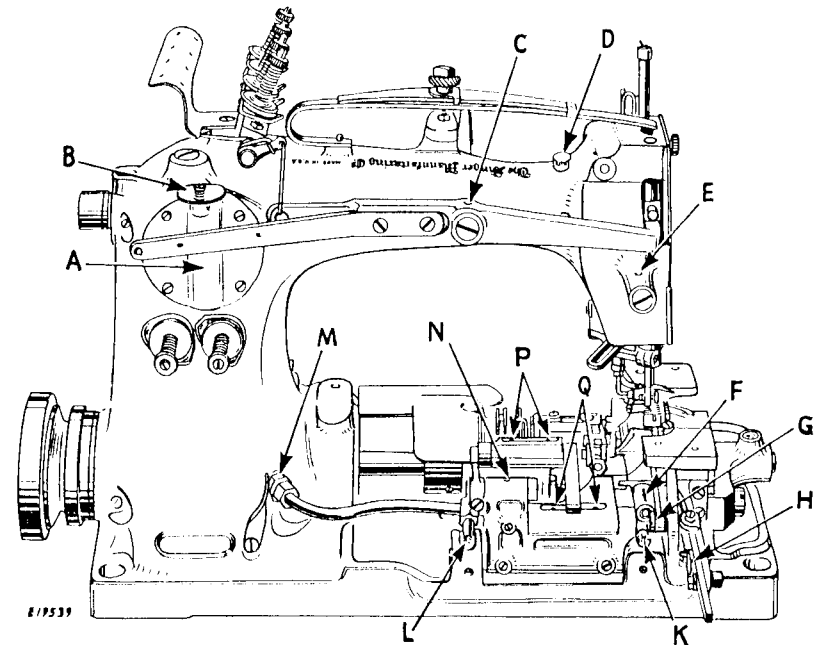
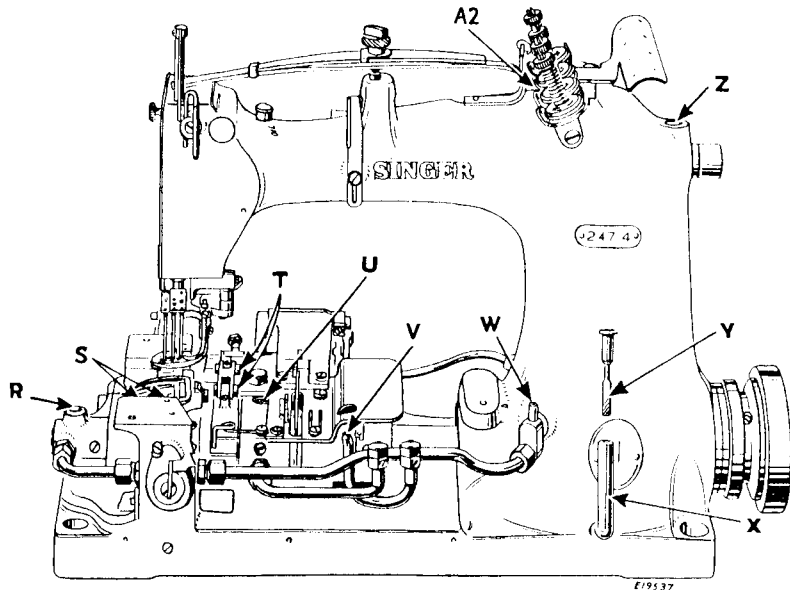

Fig. 2. Priming and Oiling Points at Rear Side of Machine
Fig. 3. Priming and Oiling Points at Front Side of Machine
**NOTE—**It is not necessary to remove the work plate for the first or subsequent oiling of the machine. For this purpose, open out hinged portion of the work plate at the front side. The work plate is removed in Figs. 2 and 3 for the purpose of illustration.
1st. Lift up and turn aside the cover B, Fig. 2, and apply oil to the filler A, Fig. 2, until the oil stands at the mark Y, Fig. 3, when the gauge is inserted in the gauge pipe X, Fig. 3, as far as it will go. The oil supply must be maintained at this level. After applying oil to the filler, turn the cover B to closed position.
2nd. Fill the oil holes or troughs at **D, L and K, Fig. 2**, and at **R, T, U, V, Z** and **A2, Fig. 3**, to prime the wicks at these points.
3rd. Fill the oil holes or troughs at **P, Q and F, Fig. 2**.
4th. Fill the main oil pipe to **overflowing** through the oil hole **W, Fig. 3**.
5th. Apply oil to oil holes at **C, N, E and G, Fig. 2**, and at **S, Fig. 3**. These two oil holes are not visible in these illustrations, but the arrows **S** will indicate their location. They serve the looper avoiding motion eccentric connection hinge pin. Also apply an occasional drop of oil at **H, Fig. 2**, on the gathering feed control.
**NOTE**—After the machine has run at a moderate speed for about five minutes, it should be stopped and allowed to stand idle for a few minutes. The oil in the reservoir should then be checked and oil should be added, when necessary, to bring it to the oil level mark **Y, Fig. 3**.
1st. Apply oil to the oil filler **A, Fig. 2**, until the oil stands at the oil level mark **Y, Fig. 3**, when the machine is at rest.
2nd. Fill the oil cup **D, Fig. 2**, **LEVEL FULL** twice daily or as required.
The letter **O** marked on the oil pipe coupling **M, Fig. 2**, must always be at the top. This is to insure that the oil spoon, attached to the inner end of the coupling, is open side up.